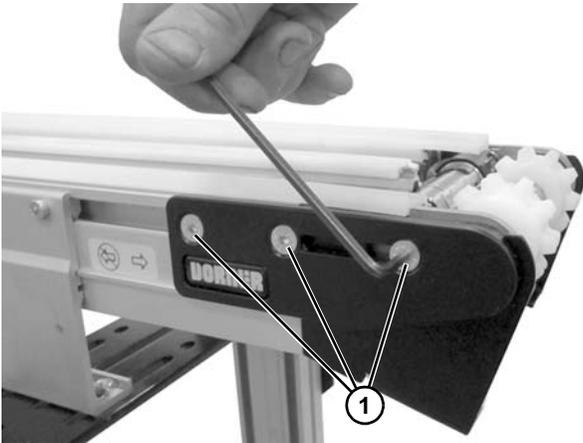

Figure 66
9. Remove three head plate fastening screws (Figure 66, item 1) from opposite side of conveyor.